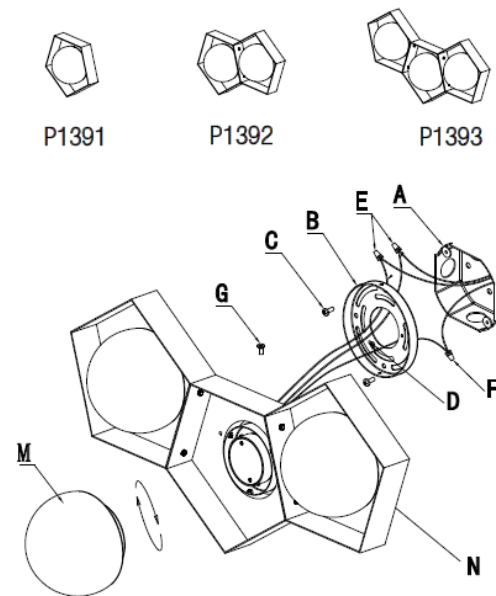

Fig. 2
### CONNECTING THE WIRES (Fig. 2)
4. At this point, connect the electrical wire as shown in figure 2, making sure that all wire connectors are secured. If your outlet has a ground wire (green or bare copper), connect the fixtures ground wire to it. Otherwise, connect the fixture ground wire directly to the mounting plate (B) using the green screw provided. After wires are connected, tuck them carefully inside the junction box (A).